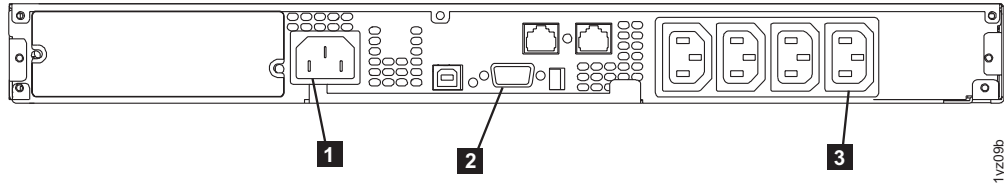

Figure 32. 2145-1U uninterruptible power supply (rear view)
7. At the back of the 2145-1U uninterruptible power supply, plug the 2145-1U uninterruptible power supply main power connector into the power socket (1 in Figure 32 on page 48). The 2145-1U uninterruptible power supply is in standby mode, so all indicators are off.